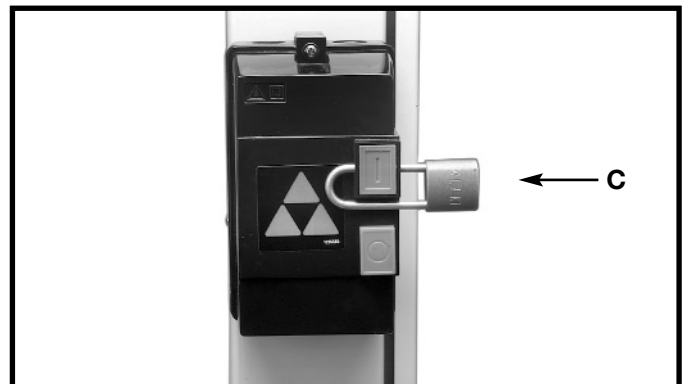

Fig. 15
IMPORTANT: When the tool is not in use, the switch should be locked in the "OFF" position to prevent unauthorized use, using a padlock (C) Fig. 15 with a 3/16" diameter shackle.